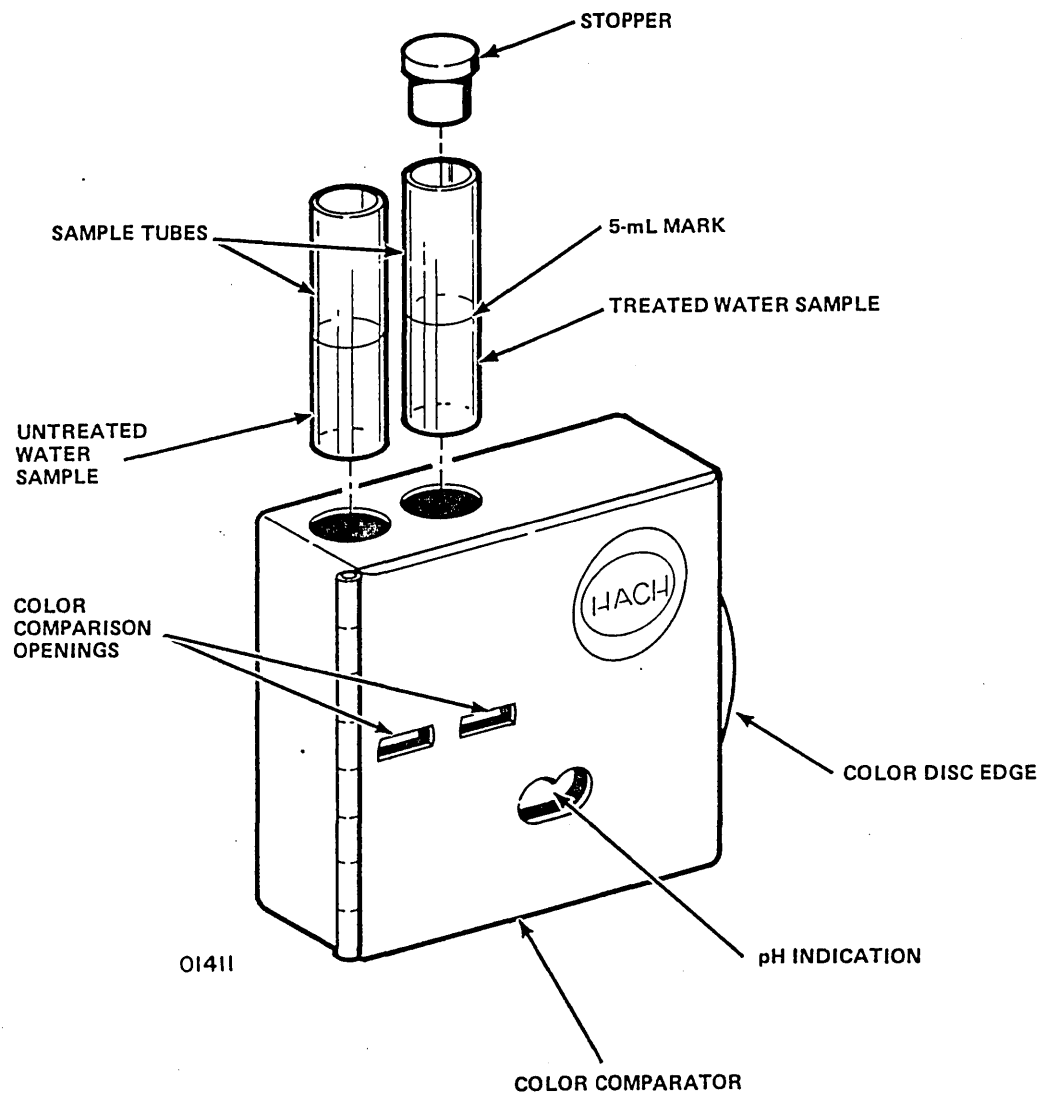

Figure 3-30. Water Treatment pH Indicator Kit
- ___ 8. Check alkalinity of water in water cooling unit, using water treatment pH indicator kit (figure 3-30) as follows: